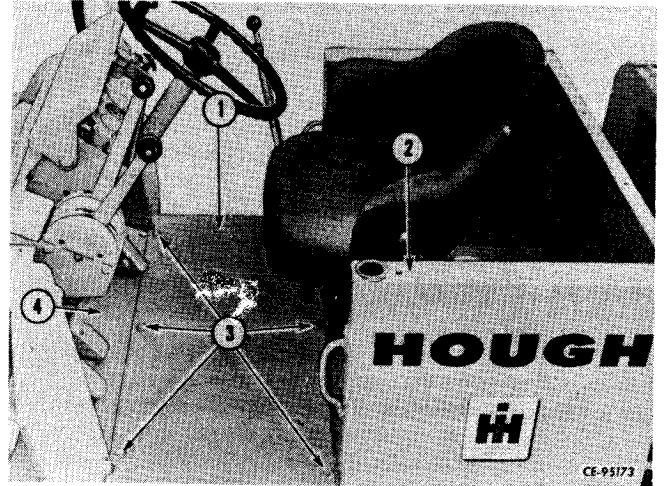

Figure 4-88
Install rear floorboard (1, Fig. 4-88) and secure to operator's compartment (2) and front floorboard (4) with cap screws (3).